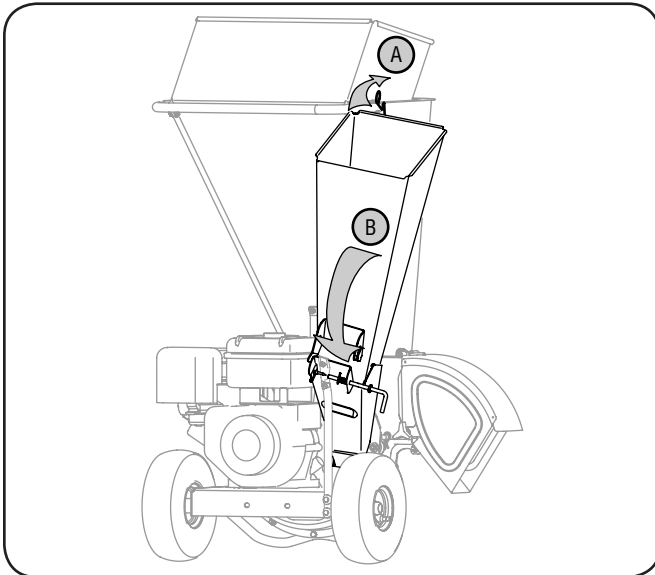

Figure 3-1
2. Gently pivot the chipper chute down until it clicks into the lock rod. See Fig. 3-1.